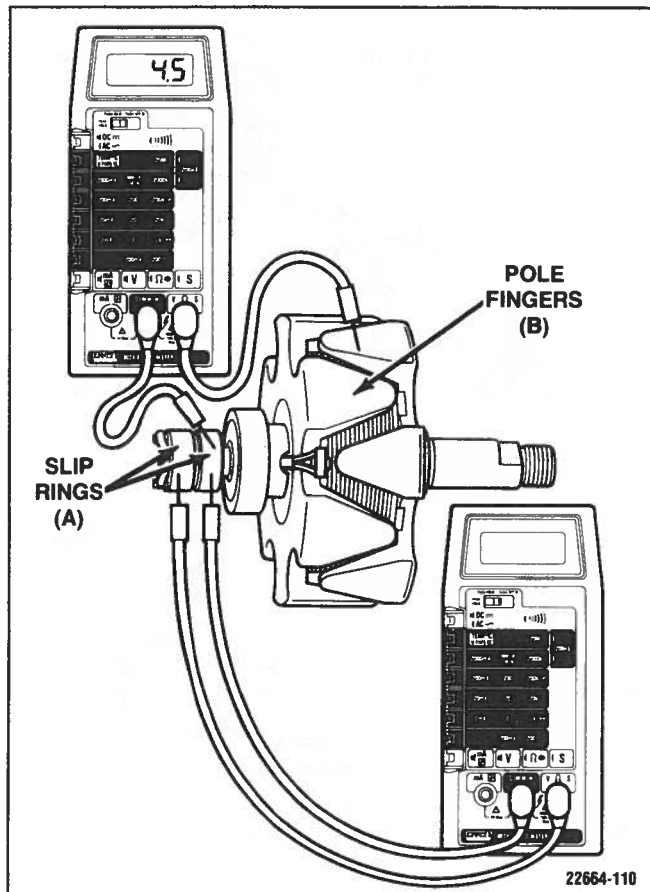

Figure 6-135. Testing Rotor
- a. Visually inspect for physical defects such as damaged shaft threads, worn or damaged bearing areas, burned or pitted slip rings or scuffed pole fingers. (Figure 6-135)
- b. Measure winding resistance across the slip rings (A). Place the ohmmeter leads on the edges of the slip rings, not on the brush contact surfaces. The correct winding resistance at 70-80° F (21-27° C) is 4.1 to 4.7 ohms. (Figure 6-135)
- d. Check for a grounded slip ring or rotor winding by measuring resistance from each slip ring to the rotor body or pole finger (B). An open circuit should be indicated in both cases for a good rotor. (Figure 6-135)